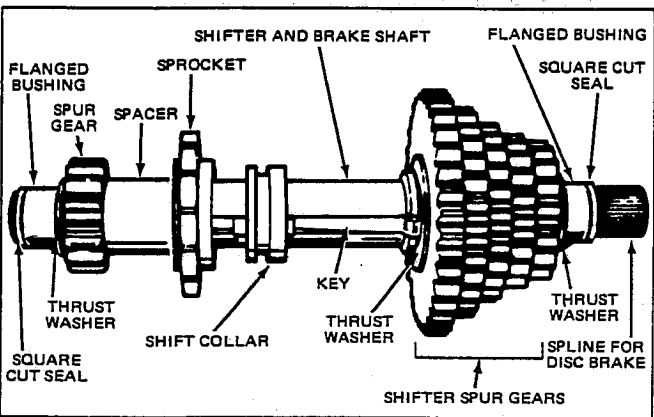

Figure 3-25
8. Remove the square cut seals (2) and flanged bushings (2), thrust washers (2) on shaft ends, spur gear, spacer, sprocket shift collar with keys, thrust washers and shifter spur gears. See Figure 3-25.